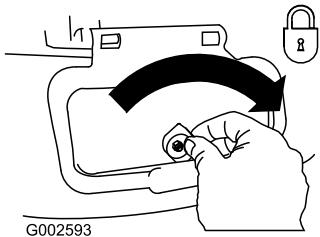

Figure 23
**Important:** Lock the side discharge door after you close it (Figure 23).